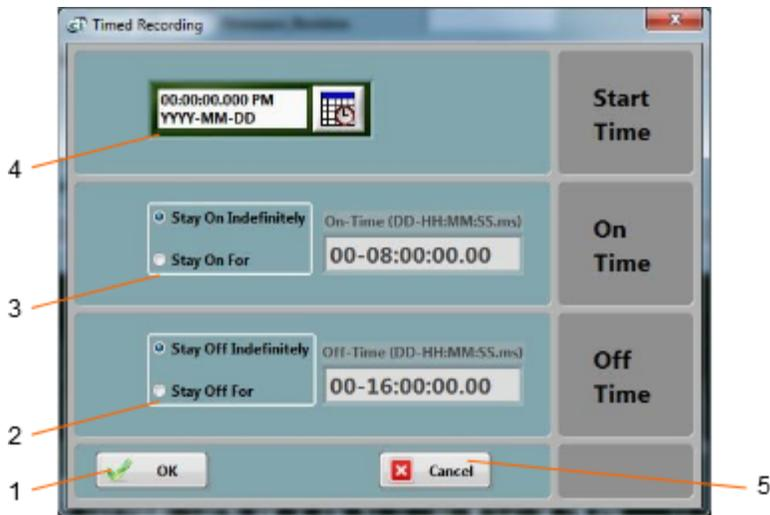

Figure 5 Timer Settings Panel
1. To choose a start time, either use the direct entry field (Figure 5 \(4\)), or press the *Calendar View* button to the right of the date-time field.